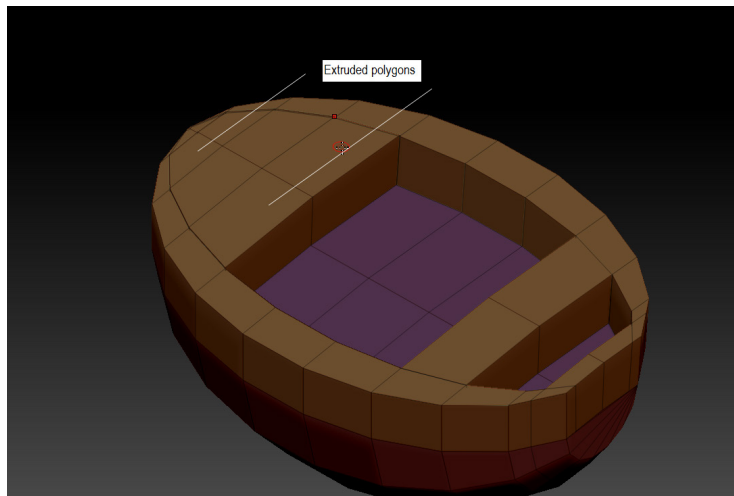

Figure 3-119 The extruded polygons
9. Select the polygons of the *boat* and move them upward; the polygons are extruded, as shown in Figure 3-119.